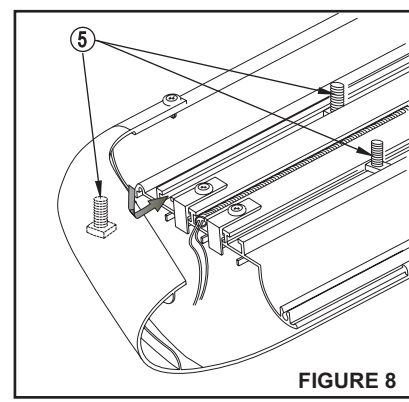
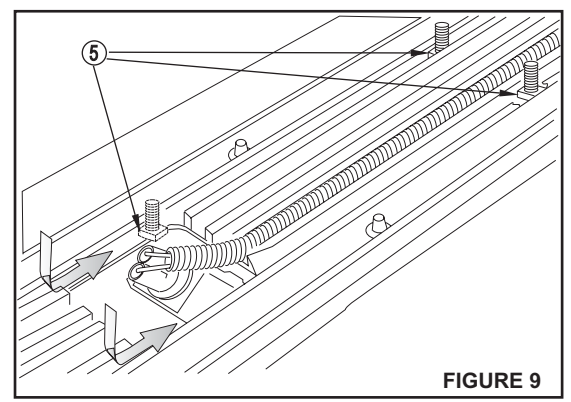

FIGURE 8
FIGURE 9
- STEP 5. Insert square head bolts in step boards as shown (4 in each slot, 8 per board). **SEE FIGURES 8 AND 9.**
NOTE: For lighted boards, run wiring harness prior to attaching board to brackets (refer to Step 8). **SEE FIGURES 8, 9 AND 12.** Run longer wire harness on passenger side.
- HINT:** Molded Step Boards: For longevity, check rubber seals before installation. Rubber grommets around red and blue wires going into rear sockets, should be inserted and recessed about 1/4". **NOTE:** Remove bulbs and apply white grease into sockets and replace bulbs. Apply RTV Silicone where lights go into socket. Install lights and run wire loom as shown. **SEE FIGURE 9.** For Sure-Grip Running Boards, run wire loom down center as shown. **SEE FIGURE 8.**